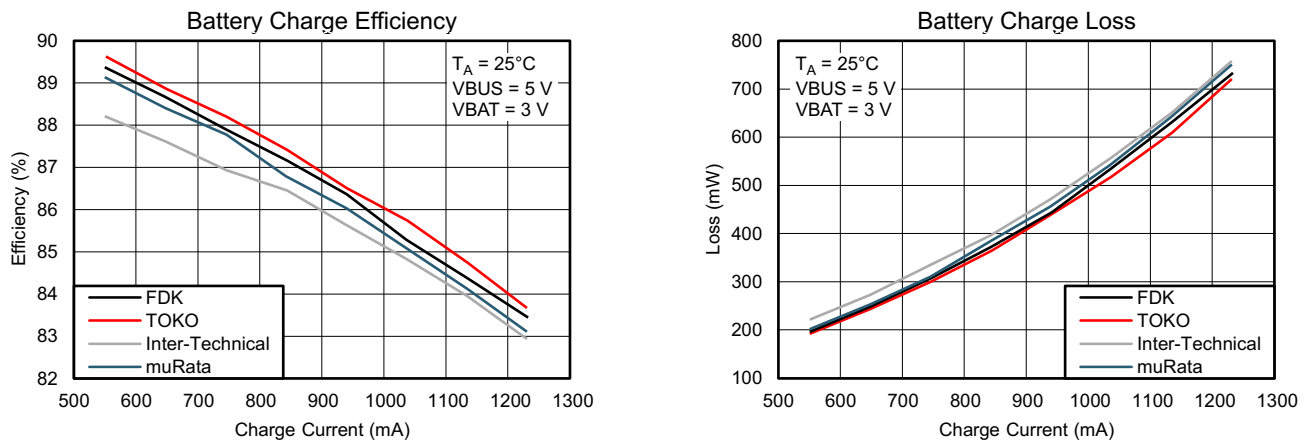

Figure 29. Measured Efficiency and Power Loss
4. Measured efficiency and total power loss with different inductors are shown in Figure 29. SW node and inductor current waveform are shown in Figure 37.